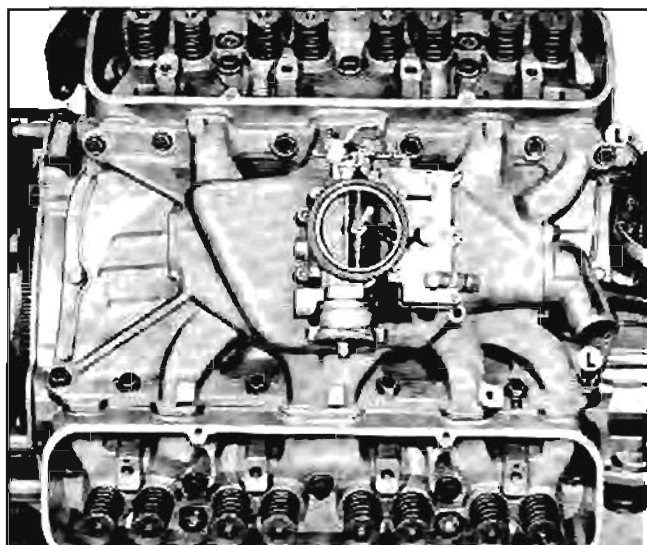

Fig. 6-79 Intake Manifold Bolts
6. Check to be sure manifold and gasket clamp are properly positioned. Start all attaching bolts into cylinder head. The two longer bolts are installed in forward location on each side (Fig. 6-79).
Lifters should at all times be stored in a covered box (Fig. 6-79) which will aid in keeping them clean. The lifter box should be kept dry and as free of oil as possible.